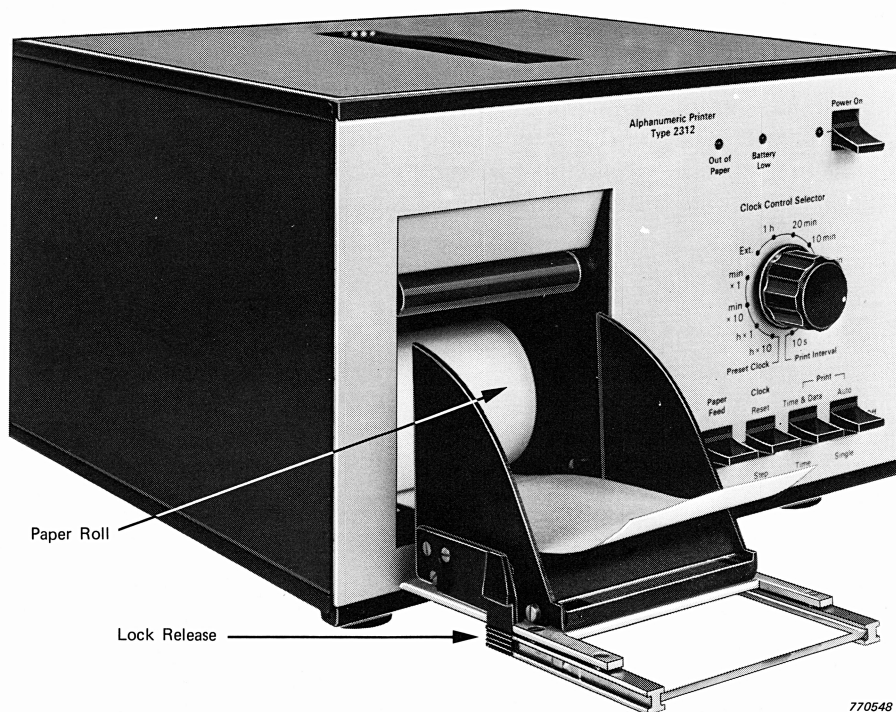

Fig.3.9. Position of paper-loading frame for paper insertion
1. Squeeze the two black plastic LOCK RELEASE knobs on the front panel of the 2312 towards each other (in the direction of the arrows), and swing the paper-loading frame outwards as shown in Fig.3.9.
3. Insert the new roll of paper into the magazine, so that the paper is fed out from the underside of the roll, as shown in Fig.3.9.